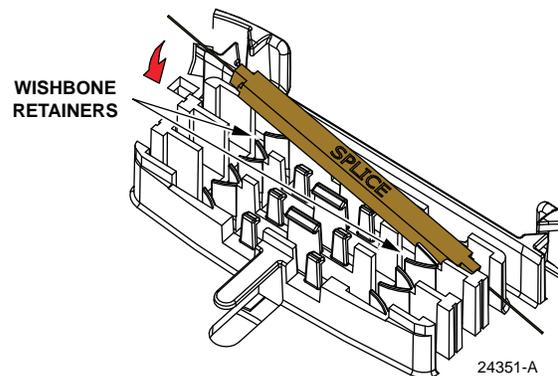

Figure 23. Mounting Splice Chips
- Mount the splice chips within the splice tray as shown in Figure 23.